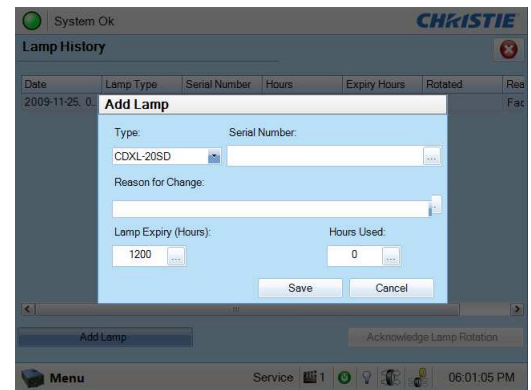

Figure 4-2 Add Lamp Window
9. **Software Adjustments.** In the **Advanced Setup: Lamp History** window, click the **Add Lamp** button and record lamp type, serial number, reason for change and number of the hours logged on to the lamp. If the lamp has not been previously used, enter 0. Click **Save** to save the data entered. (Figure 4-2)